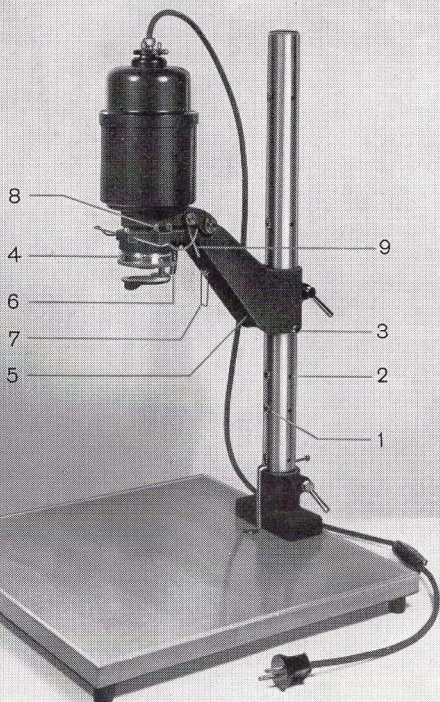

fig. 1
The instrument is set up as shown in Fig. 1. The numbers appearing on column (1) must appear facing towards the operator.